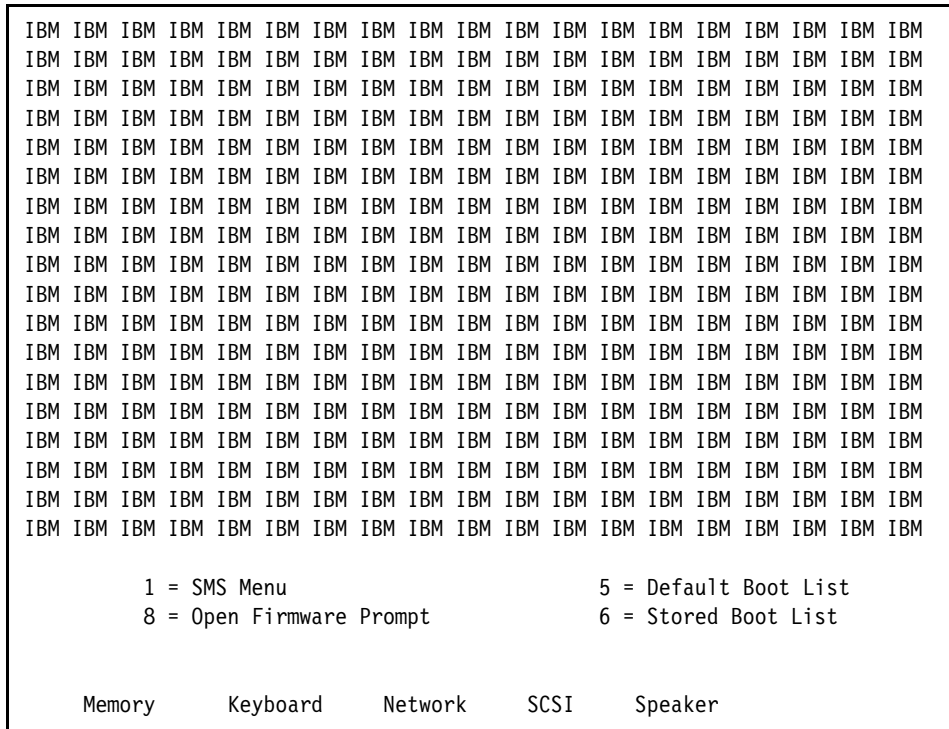

Figure 9-14 SMS boot options
15. Reboot the server and, during reboot, press 1 to access SMS mode, as shown in Figure 9-14.